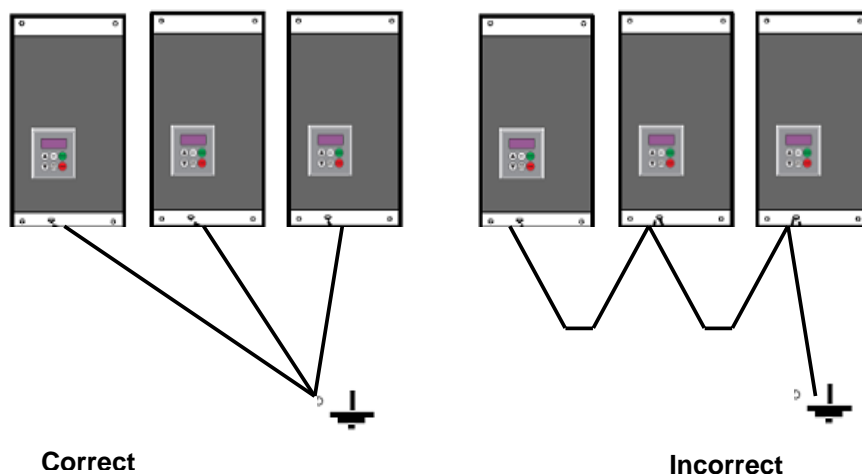

Figure 5.2. Connecting of grounding conductor
- When you use several inverters, pay special attention about connecting of grounding conductor. It is not allowed to form closed loop (*Figure 5.2*);